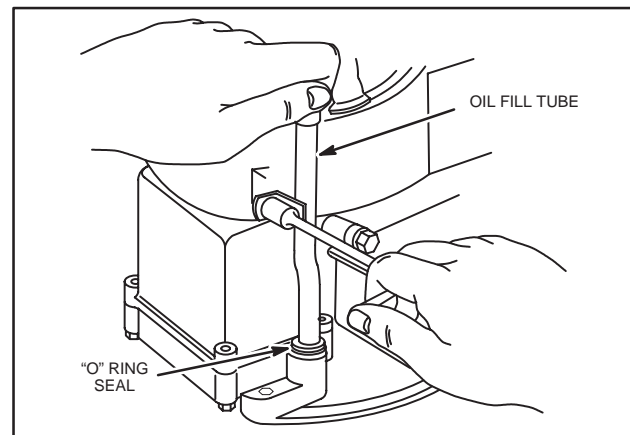

Fig. 579 – EXTENDED OIL FILL TUBE AND
3. When the cap and dipstick assembly is fully depressed or screwed down, it seals the upper end of the tube, Fig. 579.